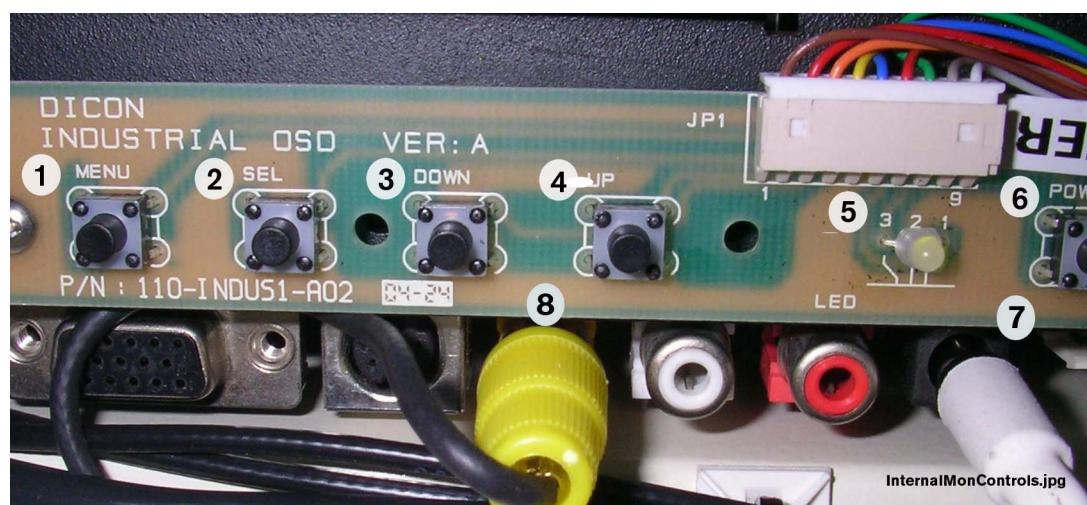

Fig. 9.3 Internal Monitor Controls
- c. Check if the Monitor Power LED is illuminated green (see *Figure 9.3* on page 24 for location and definitions).
- a. Ensure that the Monitor Power Connector is secure. See *Figure 9.3* on page 24 for the location of this connector.
- c. Unplug the the cable from the yellow RCA Jack (see *Figure 9.3* on page 24 for the location) and plug in an alternate video source in this location, such as a DVD player or test pattern generator.